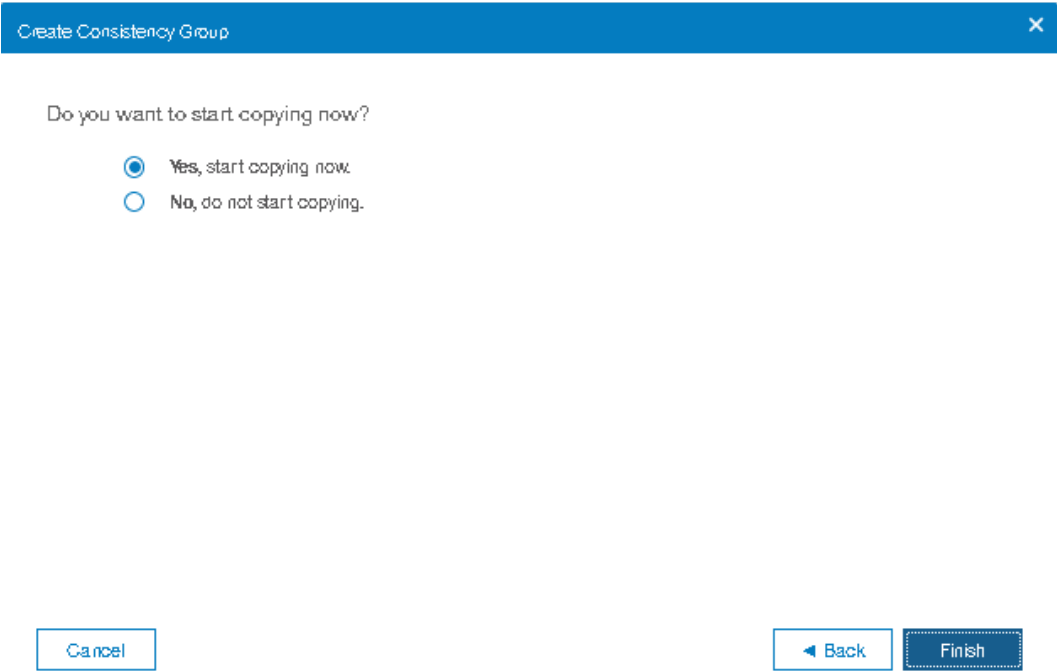

Figure 10-122 Synchronize now
11. In the last window, select whether you want to start to copy the data. Then, click **Finish**, as shown in Figure 10-122.